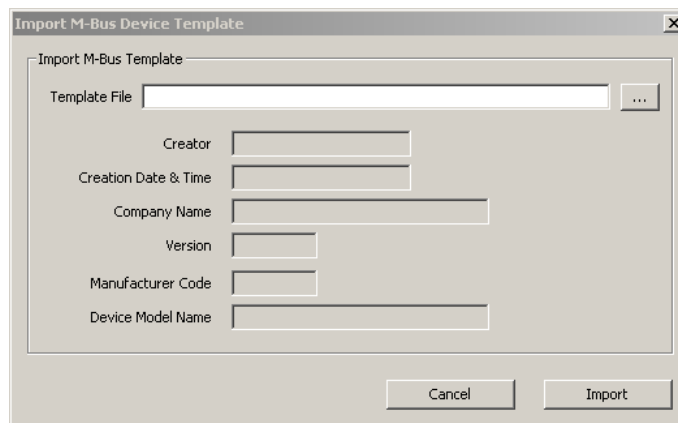

Figure 260: Import M-Bus Device Template dialog.
2. This opens the **Import M-Bus Device Template** dialog shown in Figure 260.